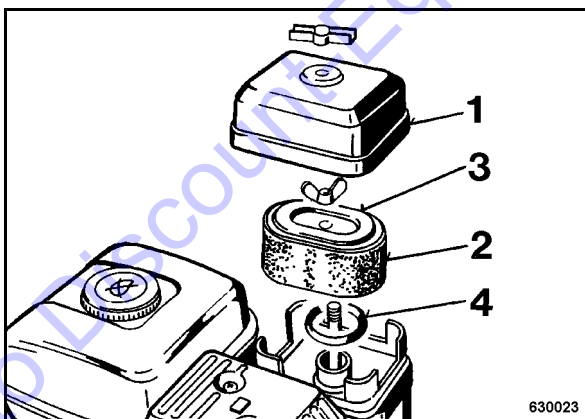

Fig. 55
- Unscrew the wing nut (1) (Fig. 55) and take off the housing cover.